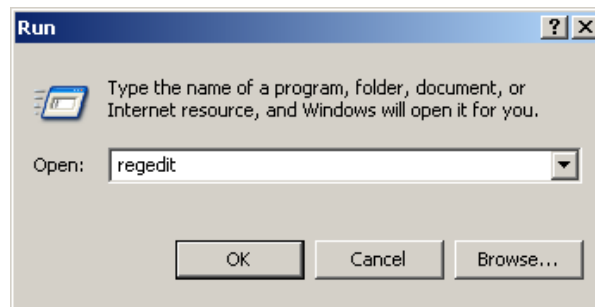

Figure II-32. Run Window
- 1) Click **Start > Run** on the Windows Desktop to open the Run window (Figure II-32).